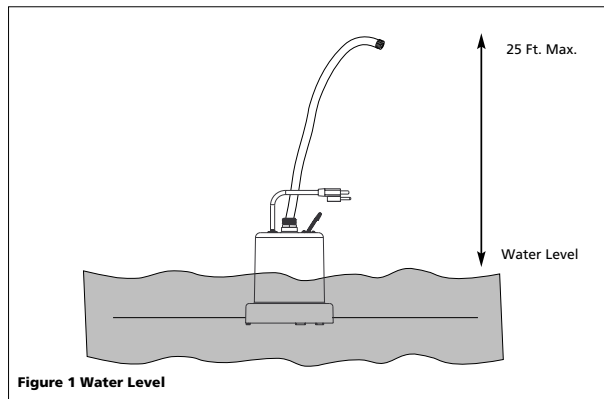

Figure 1 Water Level
- b. Verify pumping height does NOT exceed 25 feet (See Figure 1). If pumping height is greater than 25 feet, this pump will NOT work.